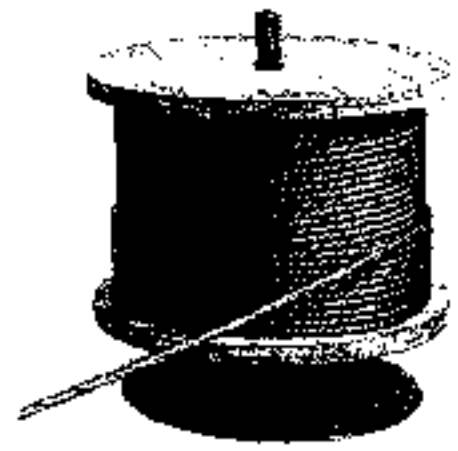

Figure 14. A vertical unreeling stand.
- 2) Another method involves mounting the reel on an unreeling stand (Fig. 14). It is then unwound in the same manner as described above (1). In this case, however, greater care must be exercised to keep the rope under tension sufficient to prevent the accumulation of slack—a condition that will cause the rope to drop below the lower reel head.